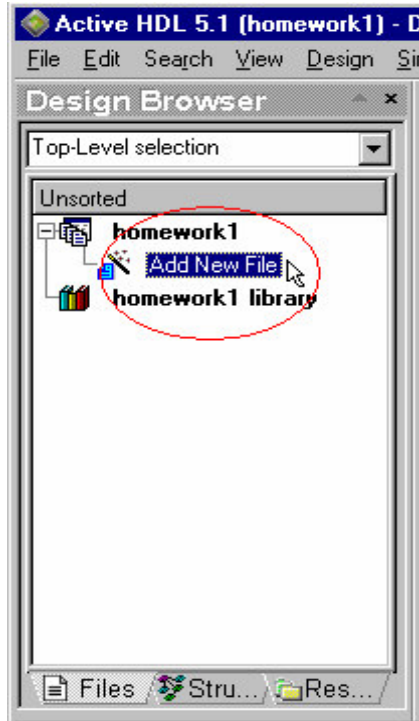

Figure 7
1. Double-click the "Add New File" option in the Design Browser (Figure 7). This will open the Add New File window.